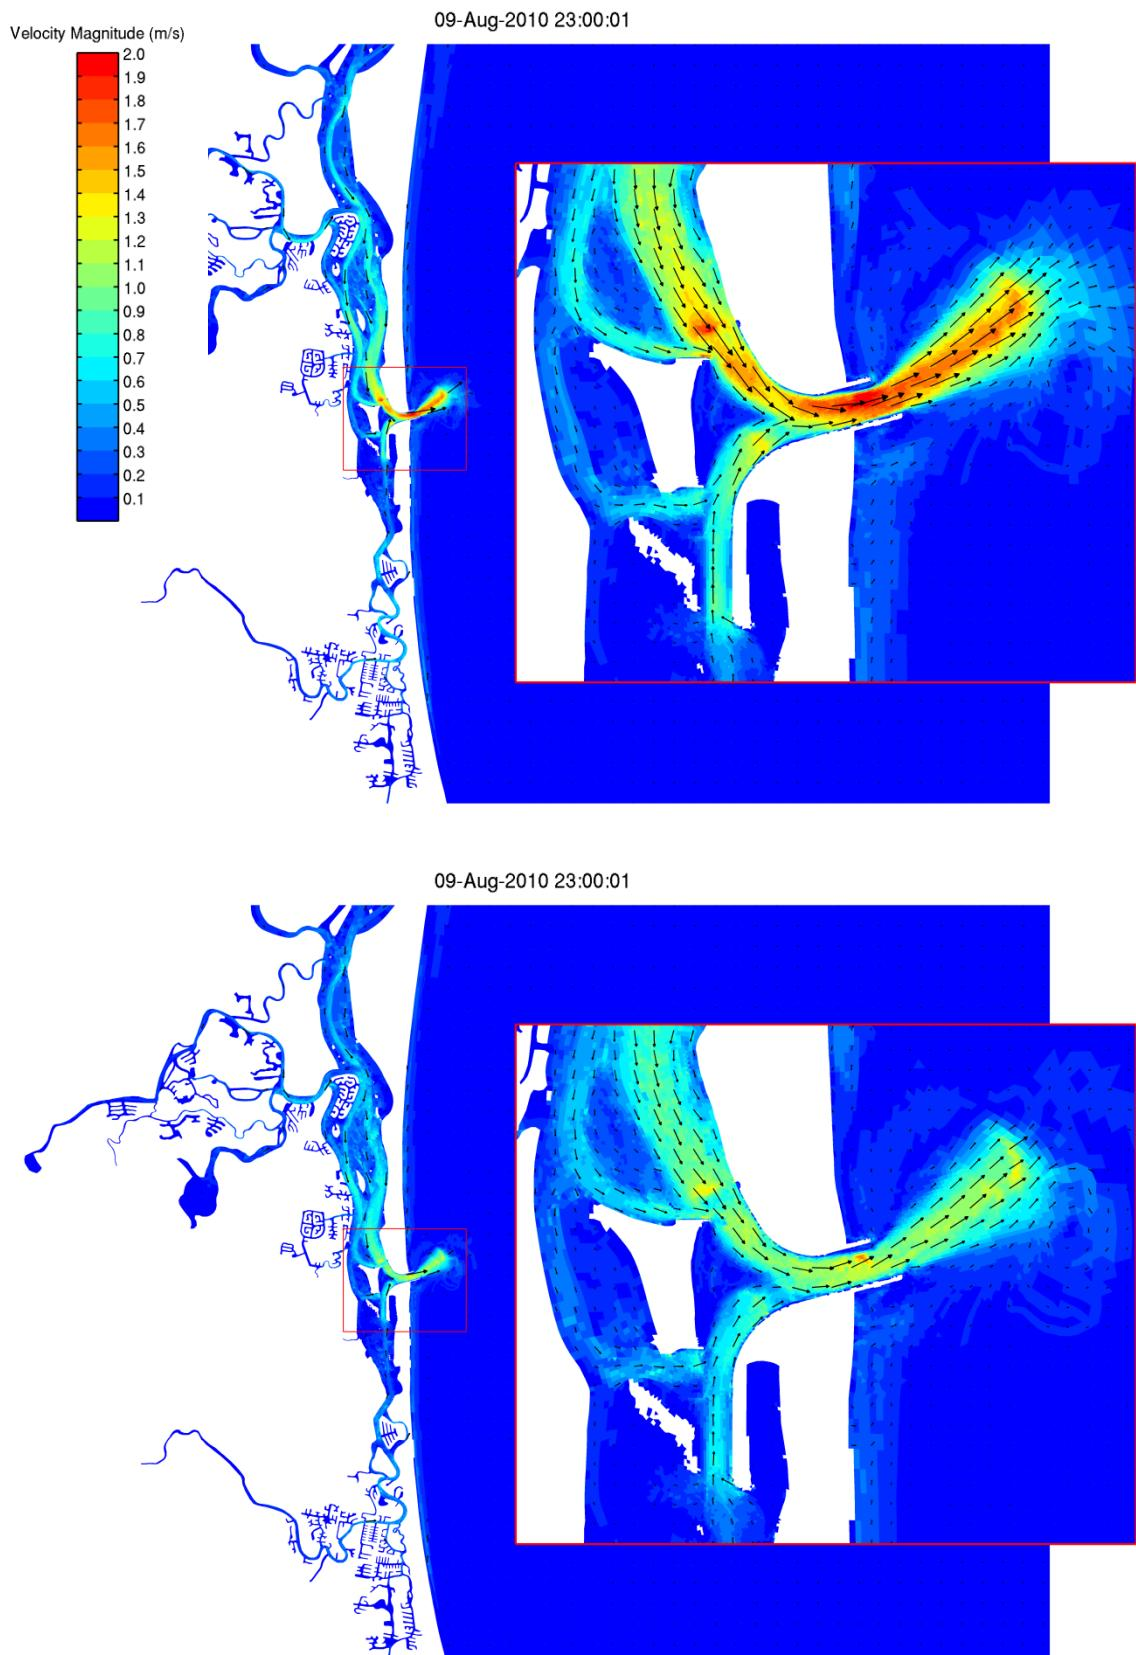

Figure 5-12 TUFLOW FV Sheet Plot with Zoom Example: Velocity Magnitude Top 50% Water Column (top); Velocity Magnitude Bottom 50% Water Column (bottom)
- Sheet plots of vertically averaged, cell-centred model output (example in Figure 5-12);